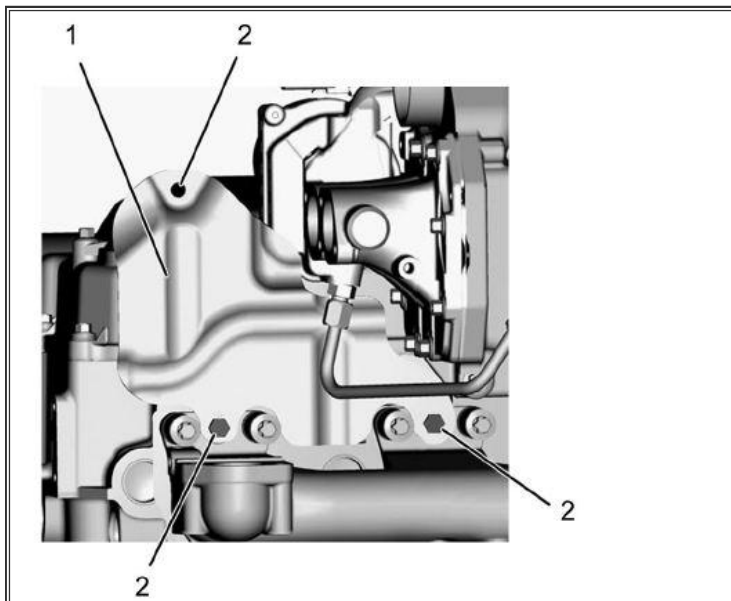

Figure 4: EGR Heat Shield
10. Remove EGR heat shield (**Figure 4**, Item 1).